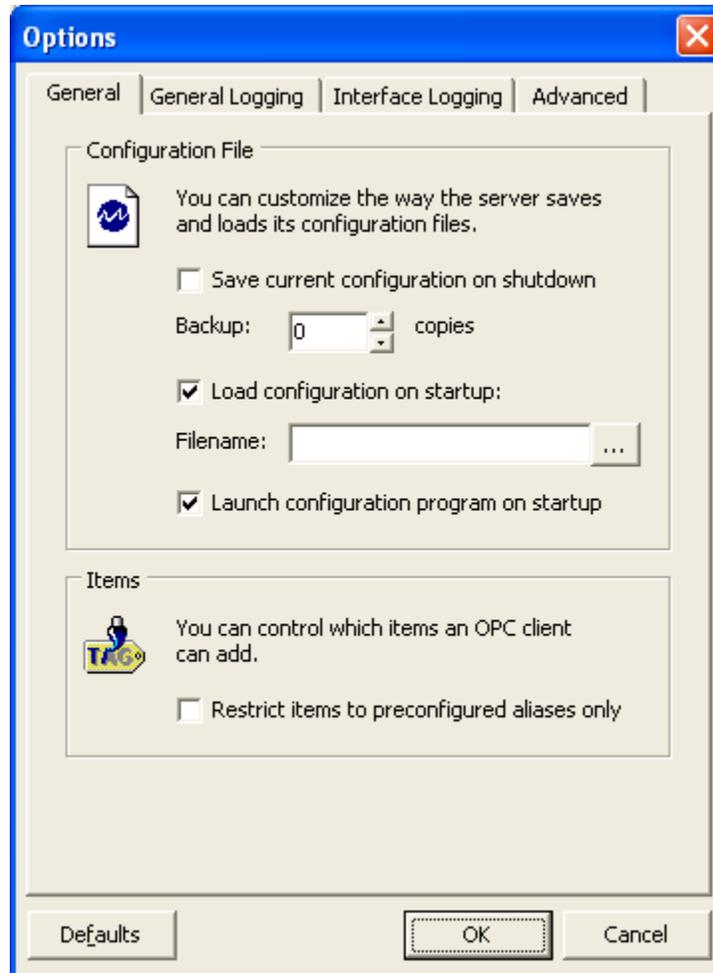

Figure 14 - General Options Tab
3. From the **Options** window, select the **General** tab (Figure 14).